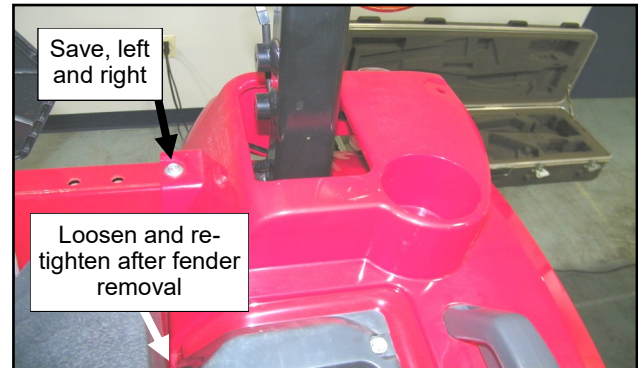

Fig. 1.7 (Save Screws with Washers, Left and Right)
- 1.7 Remove the plastic fenders. Save the screws with washers shown in Figure 1.7 for each fender. The fender is slotted at the inner most screws, so just loosen the screws and re-tighten after fender removal. Discard the rest of the hardware, as the fenders will not be re-installed.